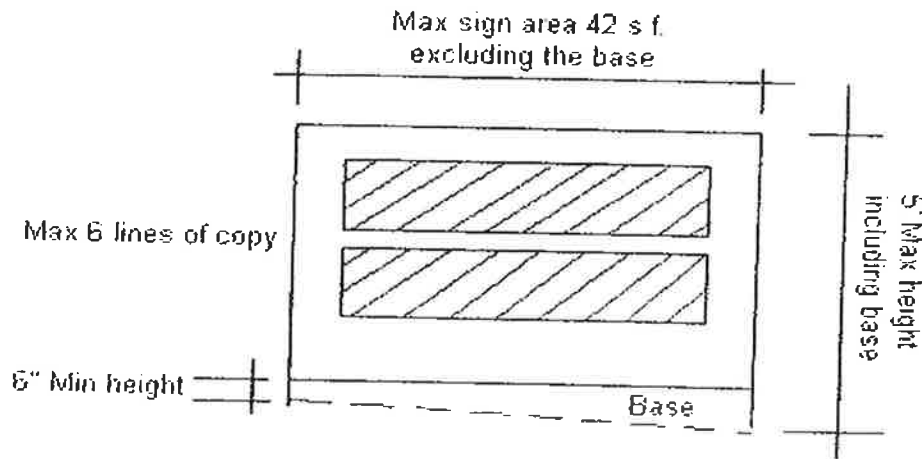

Figure 7- Retail Ground-Mounted Monument
For retail projects where identity for more than one user is required, a maximum of six (6) lines of copy is permitted on the sign face. (See Figure 7)